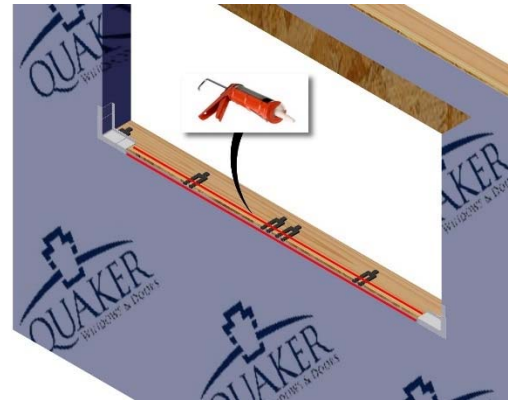

Fig. 8
- B. Apply a continuous beads of sealant on the sill and exterior wall face between the corners. (Fig. 8)